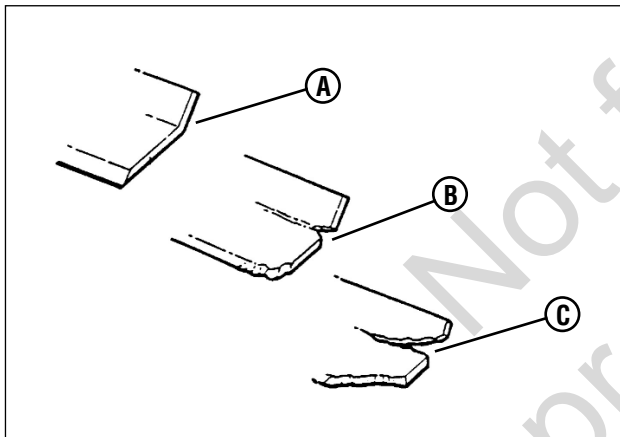

Figure 41: Mower blade wear limits
1. Inspect the blade frequently for signs of excessive wear or damage (**Figure 41**):
- (A) New blade;
- (B) Wear limit (notch starts);
- (C) Dangerous condition - do not use on mower!
4. Inspect the condition of the blade (**Figure 41**).